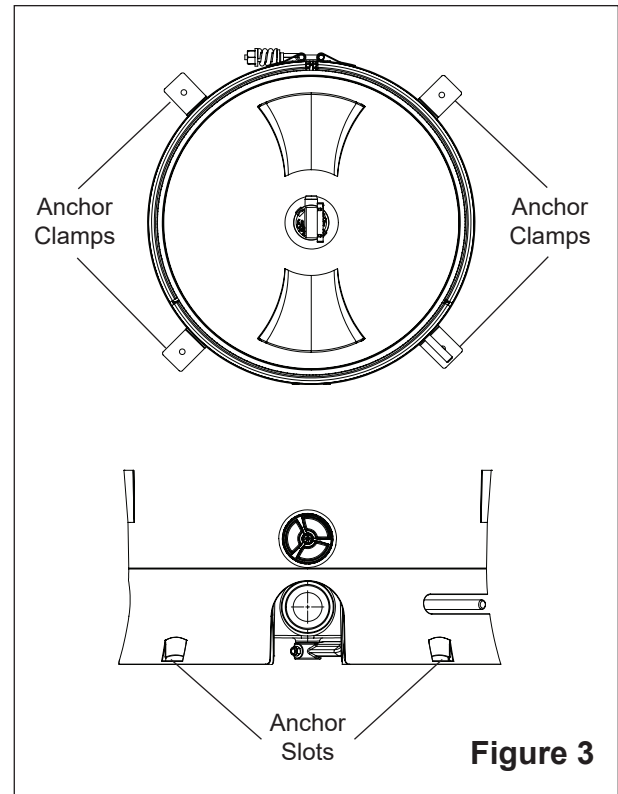

Figure 3
2. Place the clamps into the base of the filter in the four (4) anchor slots shown in **Figure 3**.
3. Fit the hook of each clamp into the anchor slots on the base panel of the filter. See **Figure 3**.